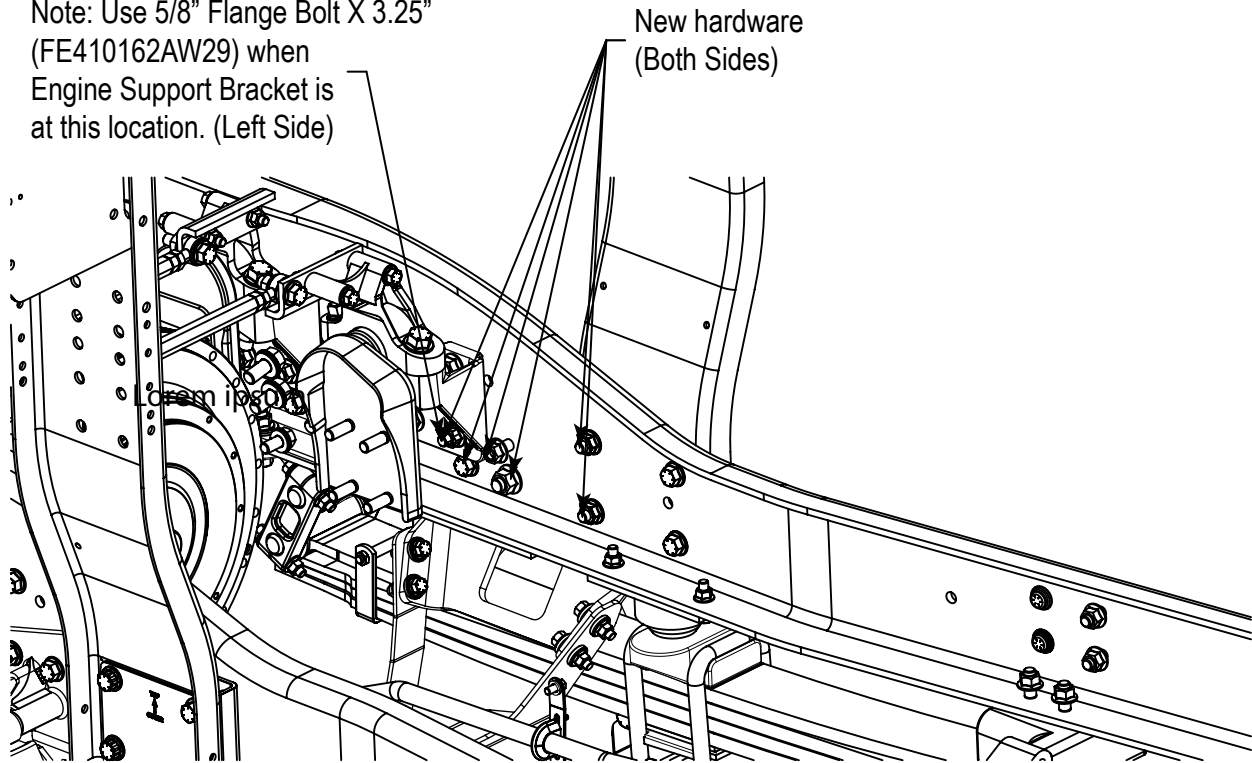

Figure 6
- Use 5/8" Flange Bolt X 3.25" (FE410162AW29) when the engine support bracket is at this location (both sides). Install Shock / Crossmember Mounts (left hand S3730004-001 and right hand S3730002-002). Tighten to 200 lb. ft. of torque (Figure 6).